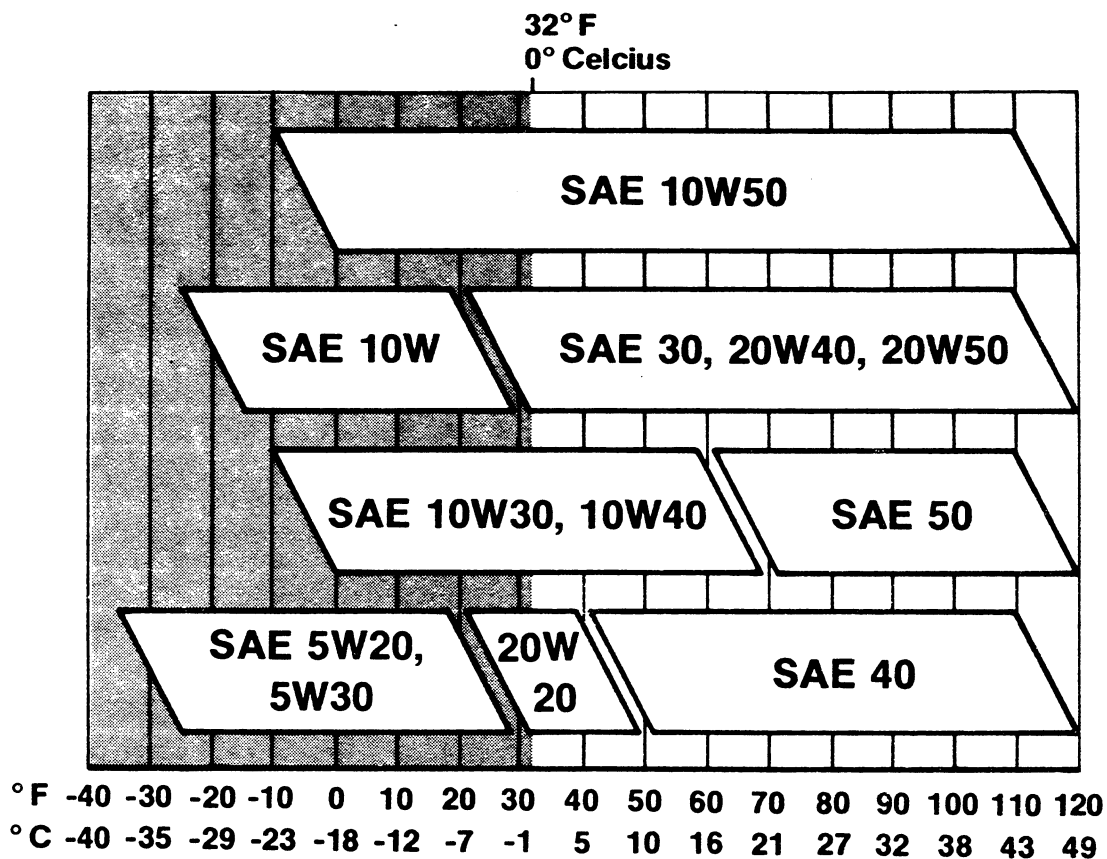

FIGURE 8. OIL RECOMMENDATIONS
**Crankcase Oil:** Use a good quality heavy-duty detergent oil that meets the API (American Petroleum Institute) service designations SE or SE/CC. Recommended SAE oil numbers for expected ambient temperature are as shown in Figure 8.